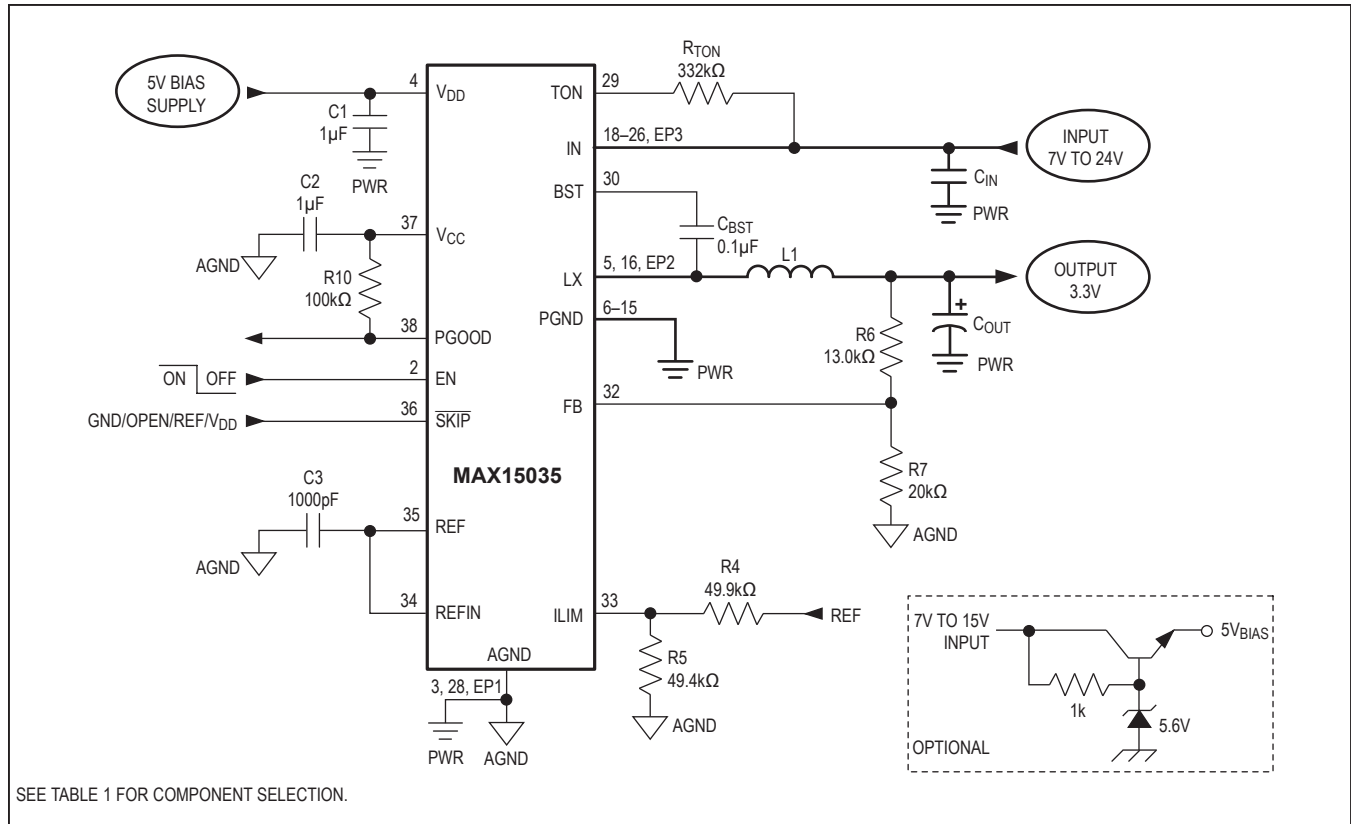

Figure 6. High Output-Voltage Application Using a Feedback Divider
The MAX15035 requires an external 5V bias supply in addition to the input. See Figure 6 for an optional 5V bias generation circuit.
Although REF_{IN} is limited to a 0 to 2V range, the output-voltage range is unlimited since the MAX15035 utilizes a high-impedance feedback input (FB). By adding a resistive voltage-divider from the output to FB to analog ground (Figure 6), the MAX15035 supports output voltages above 2V. However, the controller also uses FB to determine the on-time, so the voltage-divider influences the actual switching frequency, as detailed in the *On-Time One-Shot* section.